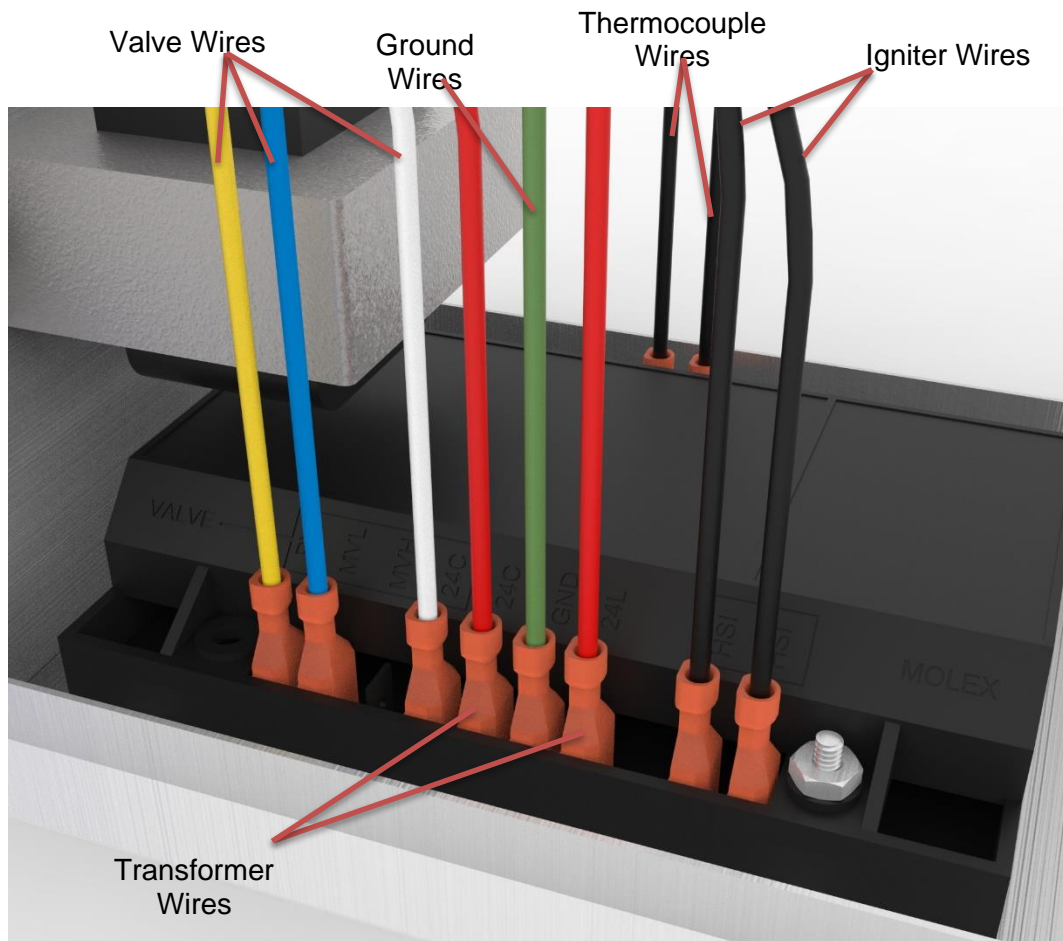
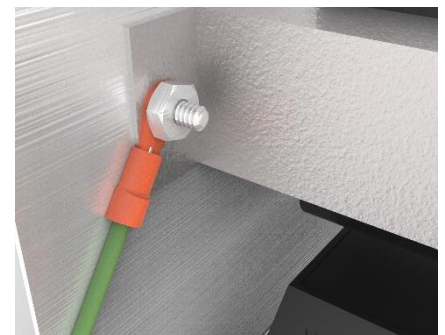
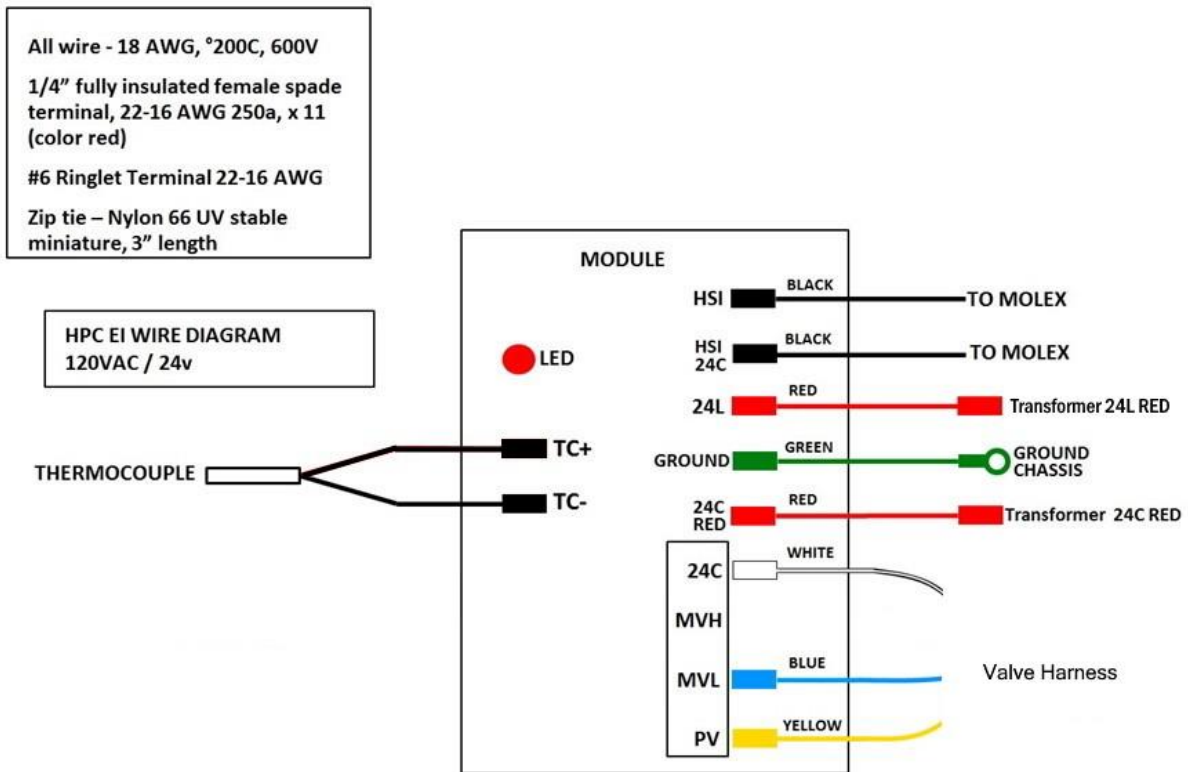

Fig. 2.2 EI Module harness install
Fig. 2.3 Attach ground wire to transformer mounting screw
Fig. 2.4 EI Module Wiring Diagram
2. Connect new wire harness to module (see Fig. 2.2, Fig. 2.3, and Fig 2.4)